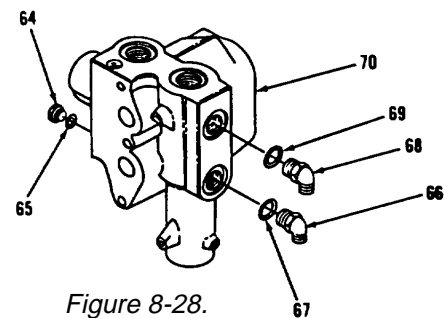

Figure 8-28.
1. Install new preformed packing (69) and elbow (68) in body (70, Figure 8-28).
2. Install new preformed packing (67) and elbow (66).
3. Install new preformed packing (65) and plug (64).